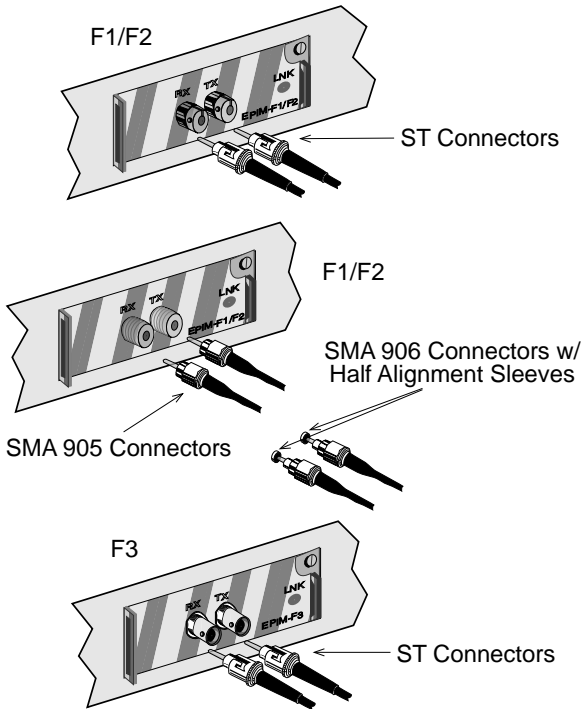

Figure 3-13. The EPIM-F1/F2 and EPIM-F3
2. On the EMM-E6, attach the fiber labeled 1 to the applicable receive port, labeled RX (Figure 3-13).